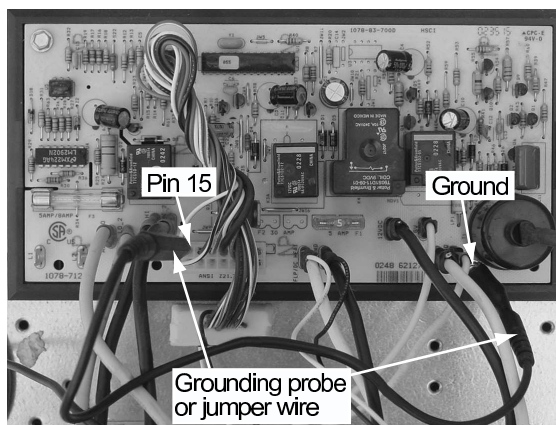

Figure 8. Resetting the power board
7. Using an insulated jumper wire, short Pin 15 to the power board ground lug for 10 - 15 seconds. A click sound will indicate when the controls are reset. See Figure 8.